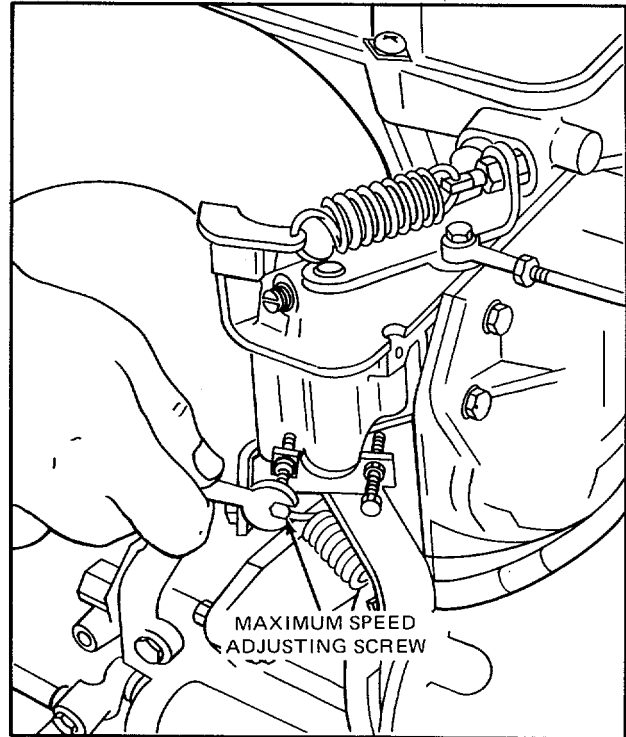

Figure 5. Adjusting Idle Speed
2. With the engine operating, loosen the locknut and turn the idle speed adjusting screw (Fig. 5) in or out until the engine idles at the recommended speed. The recommended idle speed is 550 rpm. However, the idle speed may vary with special engine applications.